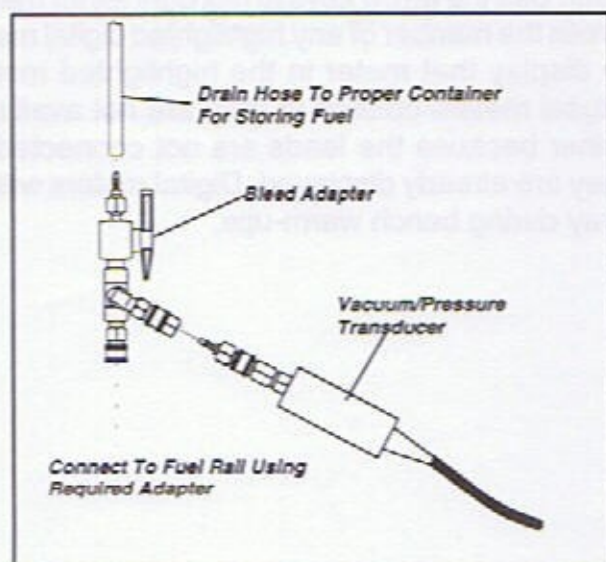

Figure 3-13
1. Install a drain hose on the end of the bleed adapter. Refer to Figure 3-13. Make sure the hose is long enough to reach a container to catch the excess fuel drained when you bleed the system.
2. Connect the Vacuum/Pressure Transducer to the fuel injection system (see Figure 3-13). Position the transducer so that it is lower than the connection at the fuel rail. Bleed all air from the transducer. Connect the proper adapter to the fuel line between the TBI unit and the fuel pump. In other systems, connect the adapter to the fuel rail, again, using the proper adapter. Adapter kits are available from various manufacturers.